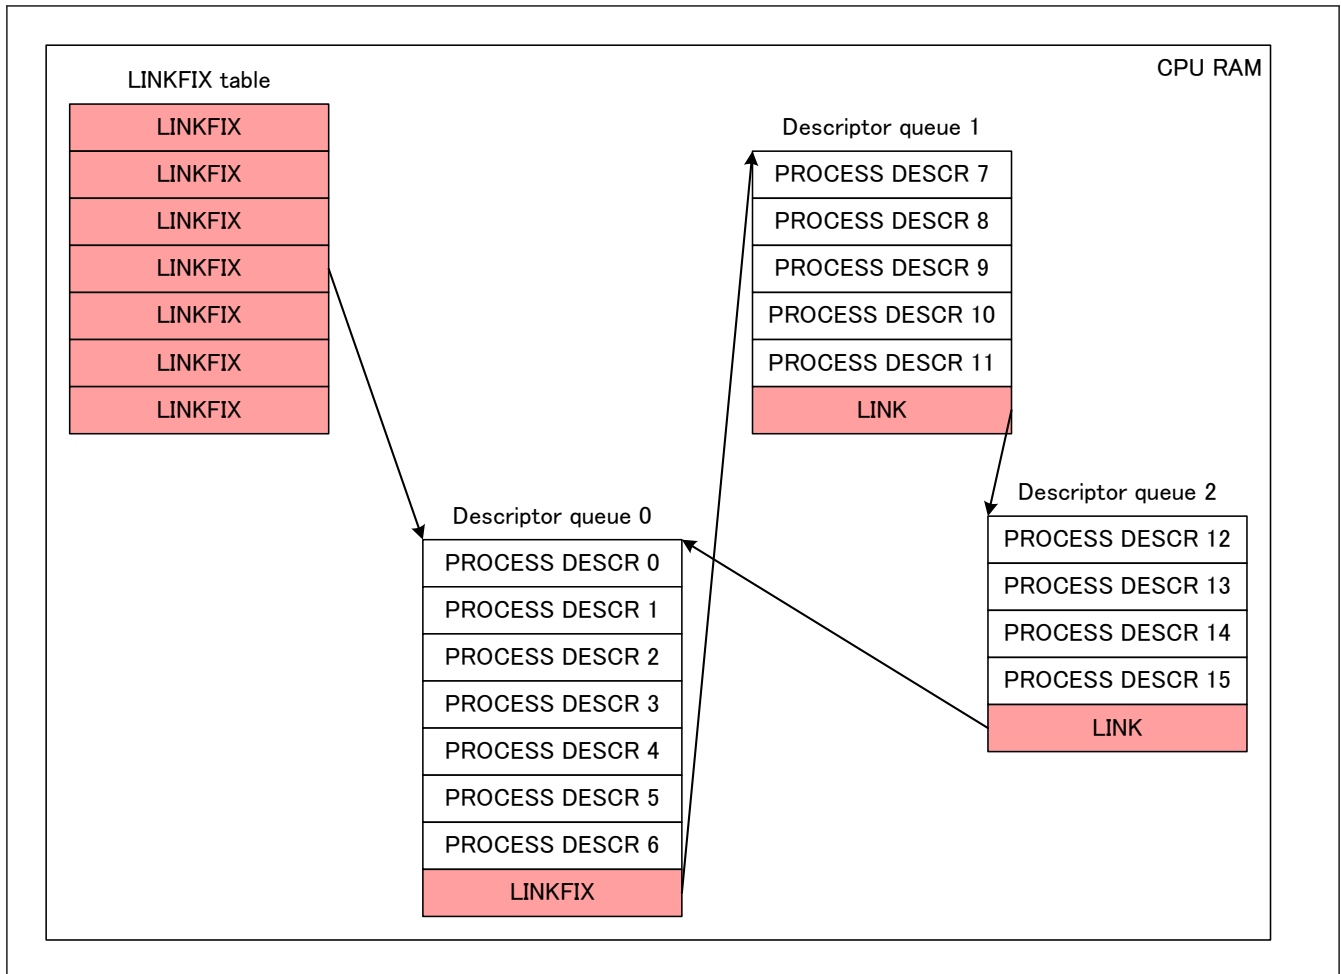

Figure 35.32 Cyclic descriptor queue example
The AXI master accepts two kinds of descriptor queues: linear descriptor queues and cyclic descriptor queues. A linear descriptor queue is a queue which is ended by a terminate descriptor. A linear descriptor queue example is described in figure Figure 35.31. A cyclic descriptor queue is a queue which is looping on itself. A cyclic descriptor queue example is described in figure Figure 35.32.
- A process descriptor (PROCESS DESCR in Figure 35.31 and Figure 35.32) correspond to a FEMPTY_IS, FEMPTY_IC, FEMPTY_ND, FEMPTY, FEMPTY_START, FEMPTY_MID or FEMPTY_END descriptor for an RX queue (see section 35.5.3.5. AXI Master Interface), to a FSINGLE, FSTART, FMID, FEND or EOS descriptor for a TX queue (see section 35.5.2.2. AXI Master Interface) and to a FEMPTY_ND for a TS queue (see section 35.5.4.2. AXI Master Interface).